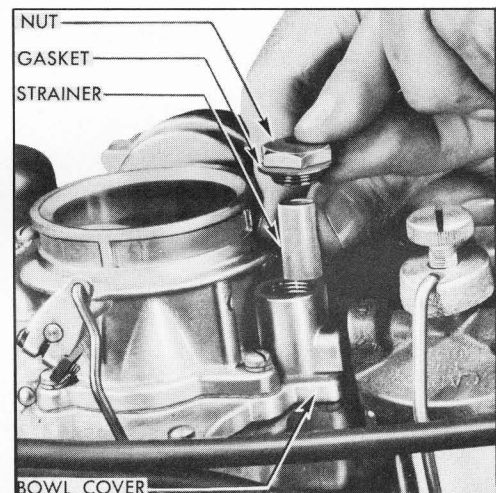

Figure 3-13—Removal of Strainer—Carter Carburetor
1. On *Carter* carburetor remove brass strainer nut and gasket from carburetor bowl cover and lift strainer out of well in bowl cover. See figure 3-13.